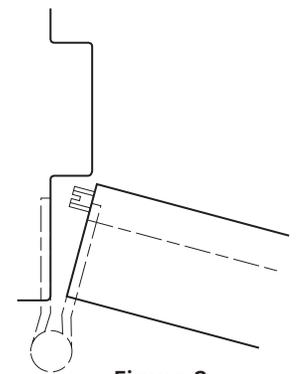

Figure 2
- b) Semi-mortised: the plunger contacts the rabbet (see Figure 2).